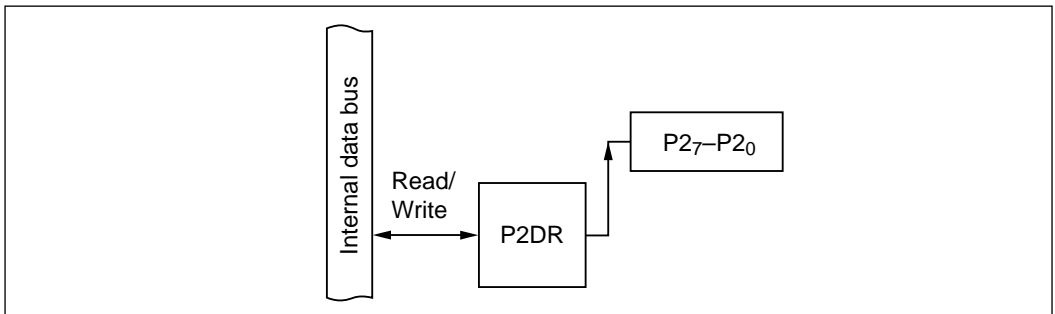

Figure 10-14 Output Port (Modes 2 and 7)
(3) Output Port (Modes 2 and 7): Figure 10-14 shows a block diagram illustrating the general-purpose output function. Table 10-9 indicates register read/write data. The value written in the port 2 data register (P2DR) is output at the pin. When read, P2DR returns the value written in P2DR.